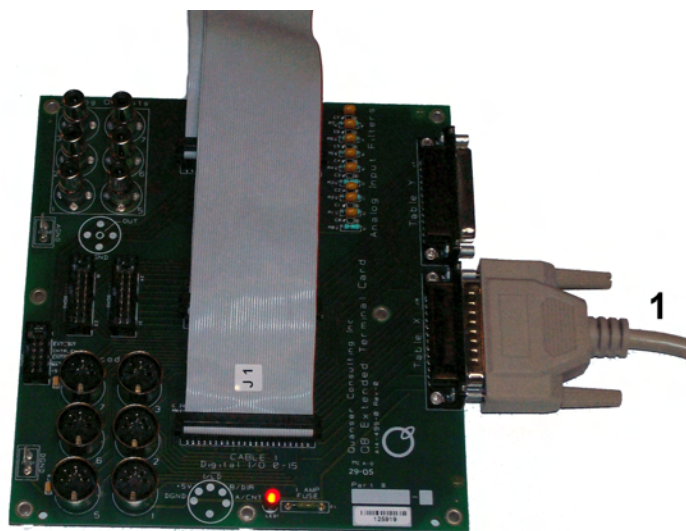
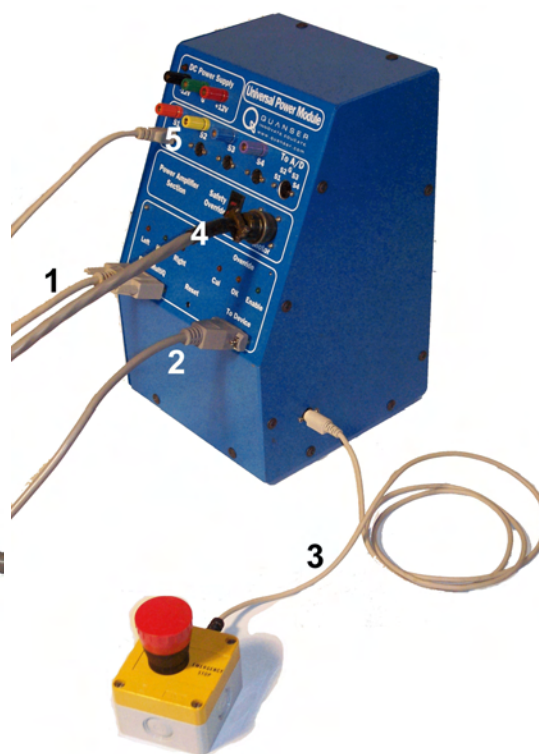
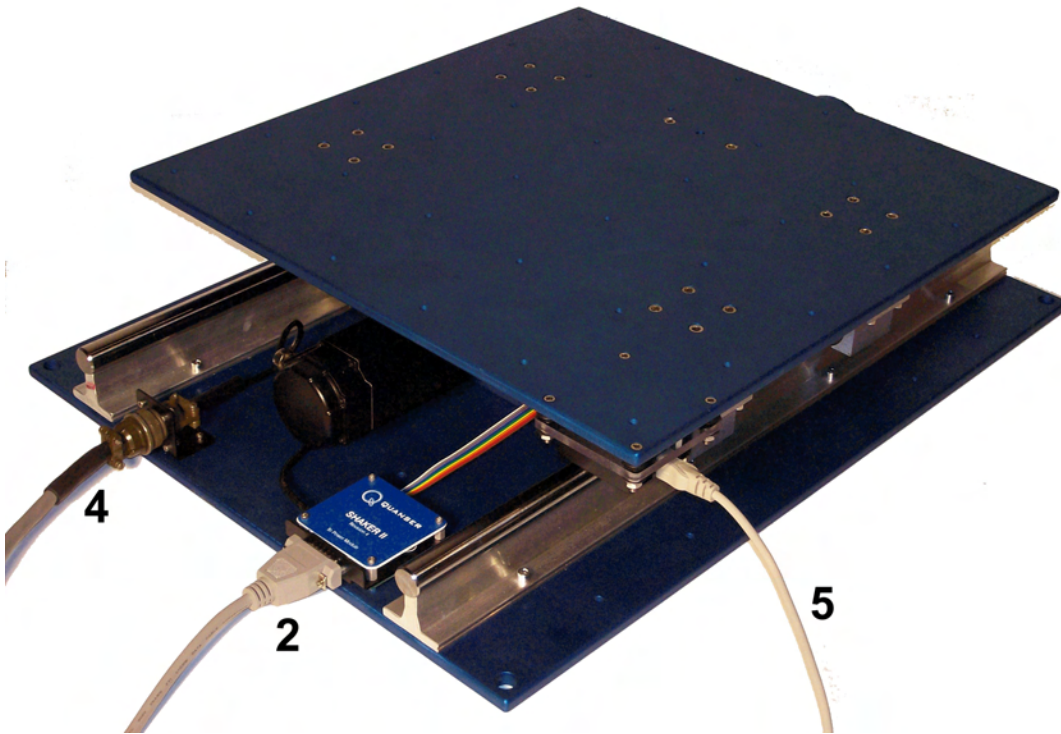

Figure 10: Connections on the Q8 Extended Terminal Board.
Figure 11: Connections on UPM-180-25B.
Figure 12: Connections of the Shake Table II device.
This section describes in detail how to connect the Shake Table II, UPM-180-25B and Q8 Extended Terminal Board together. The connections are illustrated in figures 10, 11, and 12 with a corresponding identification number. Follow these steps to wire the ST II system:
1. **Connect cable #1** from the "Table X" connector on the Quanser Q8 Extended Terminal Board, shown in Figure 10, to the "From MultiQ" connector on the Quanser UPM-180-25B, as depicted Figure 11. This connection is done using the parallel cable shown in Figure 7. See Appendix B for a listing of all the signals that are passed through this cable.
2. **Connect cable #2** from the "To Device" connector located on the UPM front panel, as shown in Figure 11, to the ST II circuit board illustrated in Figure 12. This cable used in this connection is the DB15 cable described in Table 5 and pictured in Figure 6. It carries all three proximity sensor signals, the motor encoder signals, and the brushless motor hall sensor signals to the UPM-180-25B unit. The motor encoder is used to calculate the linear position of the cart and is denoted by the variable x .
3. **Connect cable #3** into the side of the UPM, as presented in Figure 11. Cable #3 is the "Emergency Stop" cable described in Table 5 and illustrated in Figure 8. The UPM is active if and only if the remote E-Stop switch is *depressed*.
4. **Connect cable #4** from the "Motor" connector located on the UPM front panel, as depicted in Figure 11, to the "Motor" connector on the shake table, as shown Figure 12. The motor leads connector is component #13 in Figure 3. This connection is done using the "Motor" cable described in Table 5 and illustrated in Figure 5. It carries the required 3-phase power to the
5. **Connect cable #5** from the analog connector on the accelerometer mounted on the shake table, see Figure 12, to the “S1” connector on the front panel of the UPM-180-25B. **Ensure the UPM is not powered when making this connection.** It carries the acceleration measured by the accelerometer.